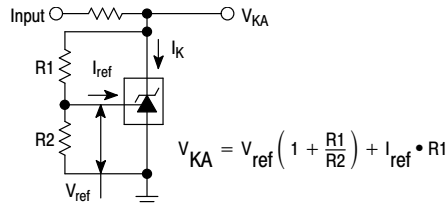

Figure 2. Test Circuit for $V_{KA} > V_{ref}$
- The dynamic impedance Z_{KA} is defined as: $|Z_{KA}| = \frac{\Delta V_{KA}}{\Delta I_K}$. When the device is programmed with two external resistors, R1 and R2, (refer to Figure 2) the total dynamic impedance of the circuit is defined as: $|Z_{KA}'| \approx |Z_{KA}| \left(1 + \frac{R1}{R2} \right)$
6. The dynamic impedance Z_{KA} is defined as $|Z_{KA}| = \frac{\Delta V_{KA}}{\Delta I_K}$. When the device is programmed with two external resistors, R1 and R2, (refer to Figure 2) the total dynamic impedance of the circuit is defined as: $|Z_{KA}'| \approx |Z_{KA}| \left(1 + \frac{R1}{R2} \right)$